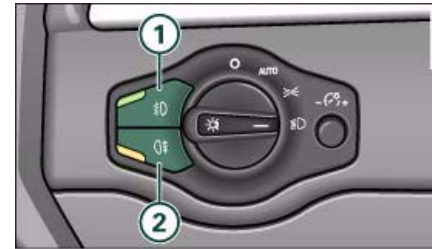

Fig. 51 Switch for front fog lights
- Press button **1** ⇒ fig. 51 to switch on the front fog lights .